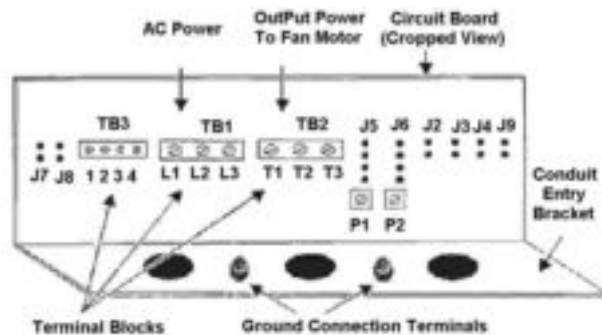
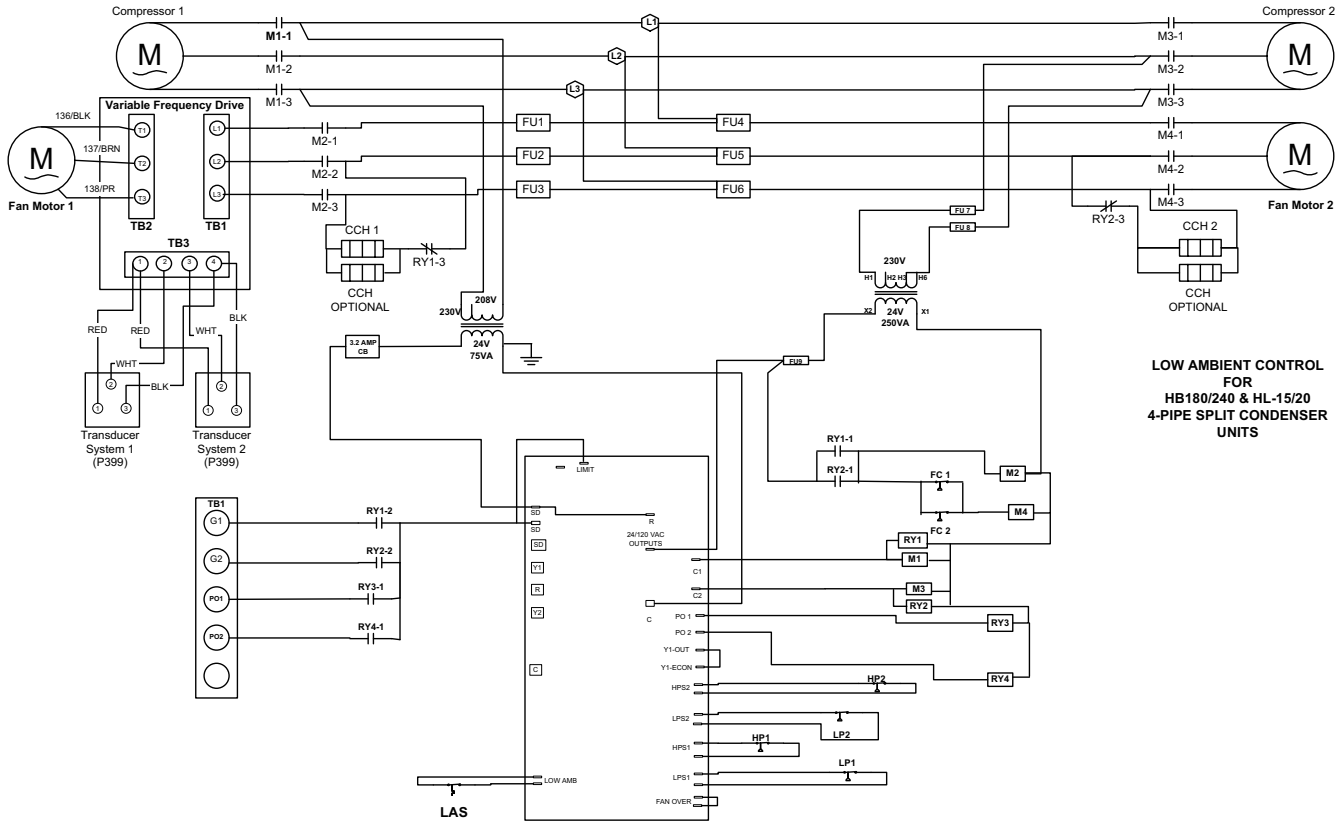

FIGURE 5 - VFD66 CONTROL TERMINAL BLOCKS
FIGURE 10 - Simplified Wiring Diagram
6. Access the VFD66 control terminal blocks. See Figure 5.
8. Wire condenser fan motor #1 to the VFD66 control. See Figures 5, 7 and simplified wiring diagram Figure 10.